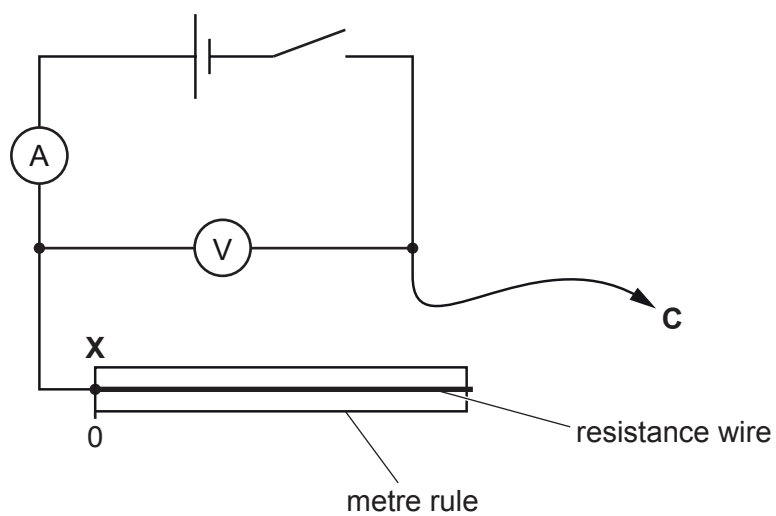

Fig. 4.2
- (a) (i) The circuit shown in Fig. 4.2 has been set up for you.